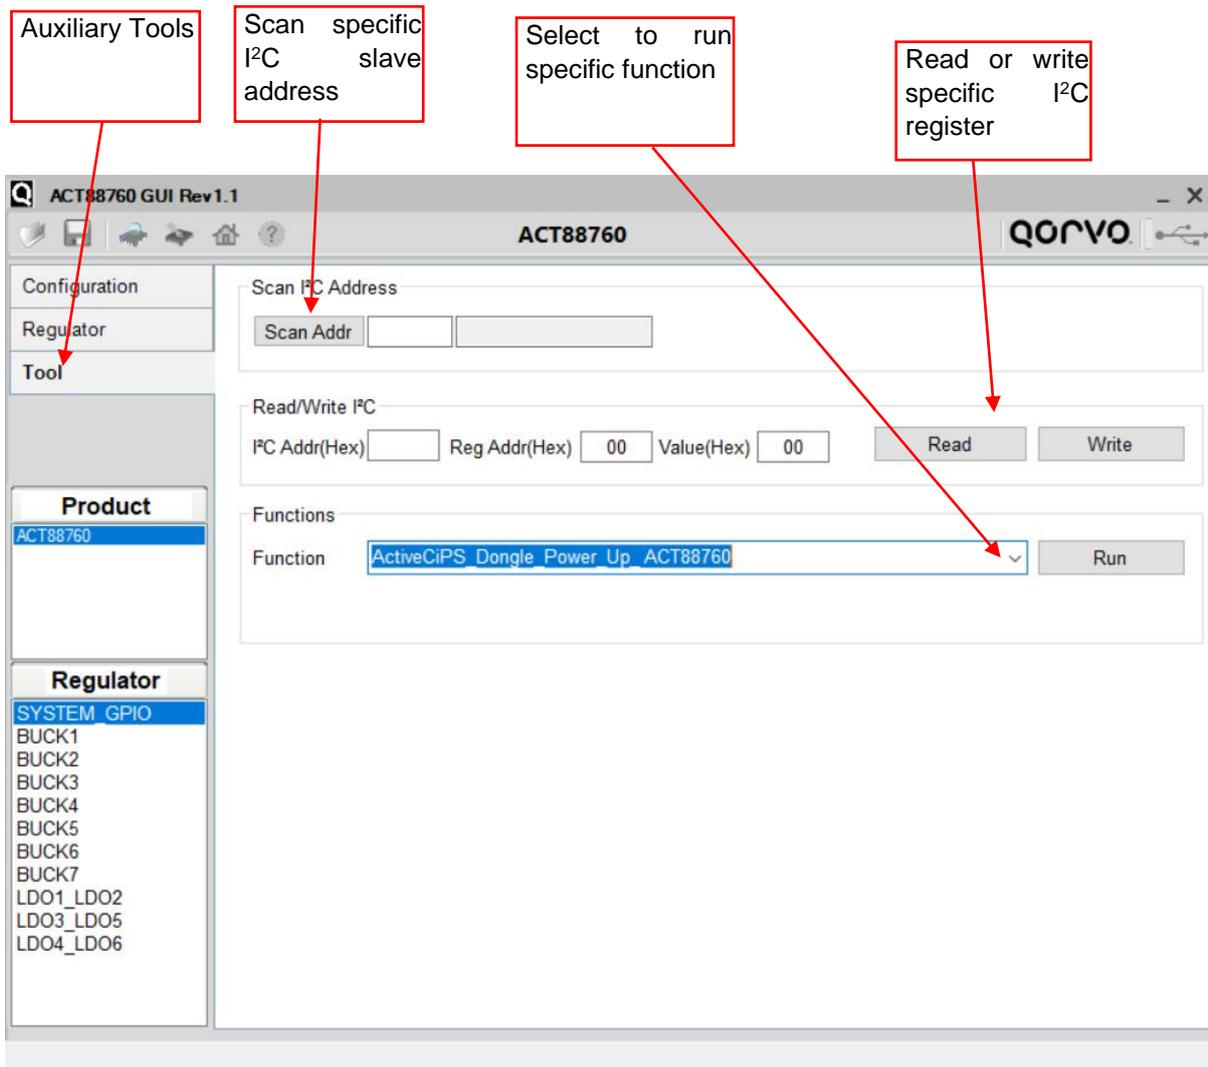

Figure 3: ACT88760GUI Auxiliary Tool and Functions
The ACT88760 EVK GUI integrates auxiliary tools to allow the user to read or write a single I²C register using Qorvo’s USB-to-I²C dongle or to reprogram the IC’s Non-Volatile Memory (NVM) registers with Qorvo’s ActiveCiPS™ Dongle. Select the “Tool” tab to navigate to the Auxiliary Tool functions screen as below in **Figure 3**. There are 3 functions available in this mode:
1. On the GUI, navigate to the “Tool” tab, then select and run the “ActiveCiPS_Dongle_Power_Up_ACT88760” function to power the ACT88760 EVK or socketed board from the ActiveCiPS dongle. Refer to **Figure 3**. Use DMM to measure output voltage make sure device is started properly.